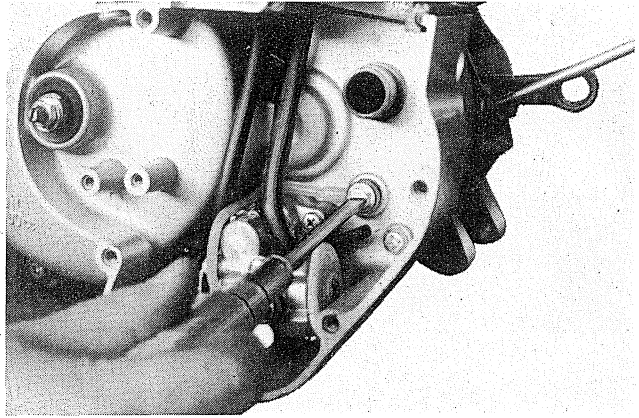

Fig. 3-7-2
- 2) Remove the banjo bolt from the pump delivery pipe valve cover. (Fig. 3-7-2)